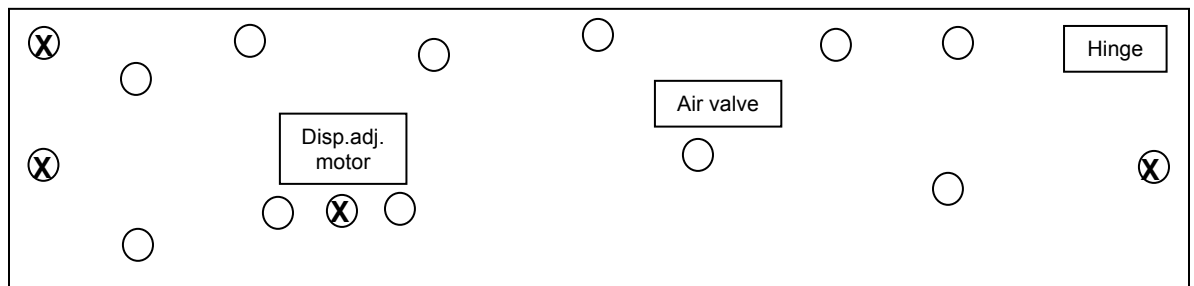

Figure 001-61: Control Panel Screws
5. Remove the eleven T10 screws securing the control panel (circles, Figure 001-61).